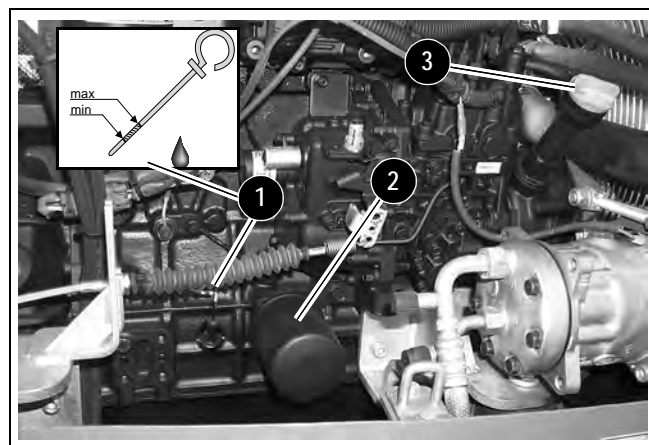

Figure 4-2 Oil Dipstick and Filter Locations
2. Check the engine oil level using the dipstick (1) located at front of the engine. See Figure 4-2.
3. Add oil if required through the oil filler neck (3). See Figure 4-2.